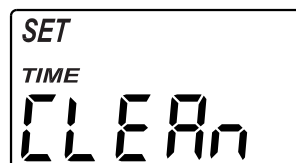

FIG. 29
2. Press the SELECT button twice to display the "Set Clean Time" screen (See Figure 29).